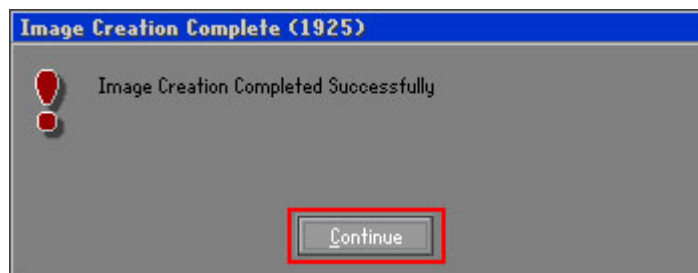

Figure B-17: Image Creation Complete
Step 11: When the image creation completes, a screen prompts as shown in **Figure B-17**.